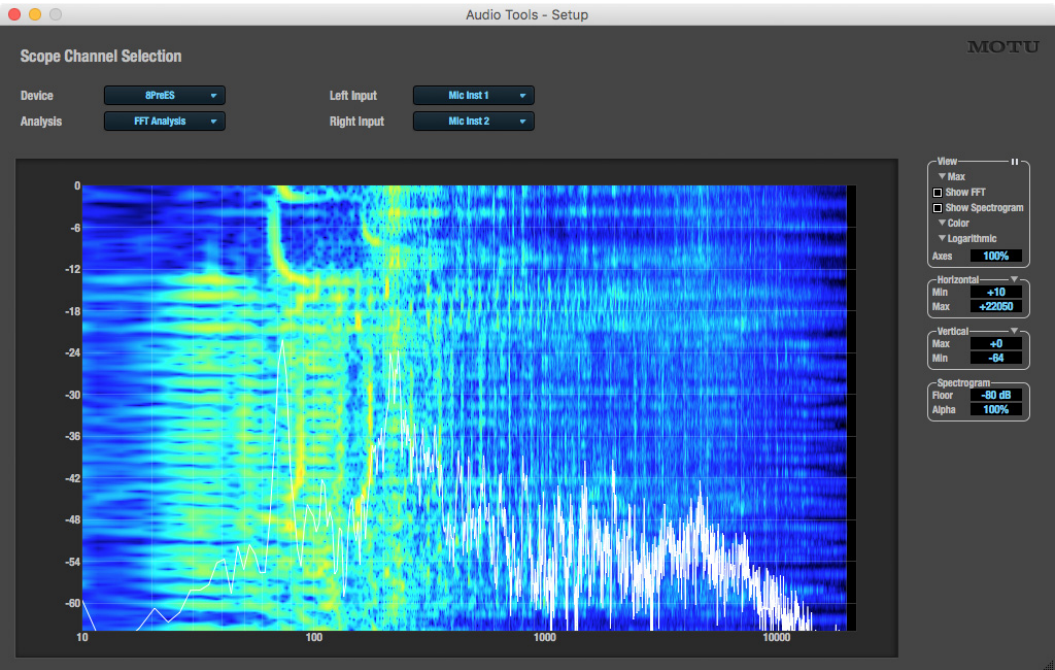

Figure 11-1: The MOTU Audio Tools window with the FFT and Spectrogram Analysis.
If you are working with more than one MOTU audio interface, the *Device* menu (Figure 11-1) displays all interfaces that are currently connected to your host computer. Choose the device you wish to work with.
Choose the desired form of audio analysis from the *Analysis* menu (Figure 11-1). For details on each analysis pane, see the following sections of this guide.
Choose the desired channel(s) you wish to scope from the *Left Input* and *Right Input* menus (Figure 11-1). These menus display the *To Computer* channels configured in the MOTU Pro Audio Control web app. The number of channels shown is controlled by the *To Computer* setting in the Routing tab (item 30 on page 15). For example, if 18 channels are specified, you'll see 18 channels in the *Left/Right Input* menus. Use the Routing tab to map desired audio sources (listed across the top of the grid) to the *To Computer* audio channels, as demonstrated in Figure 8-7 on page 72.